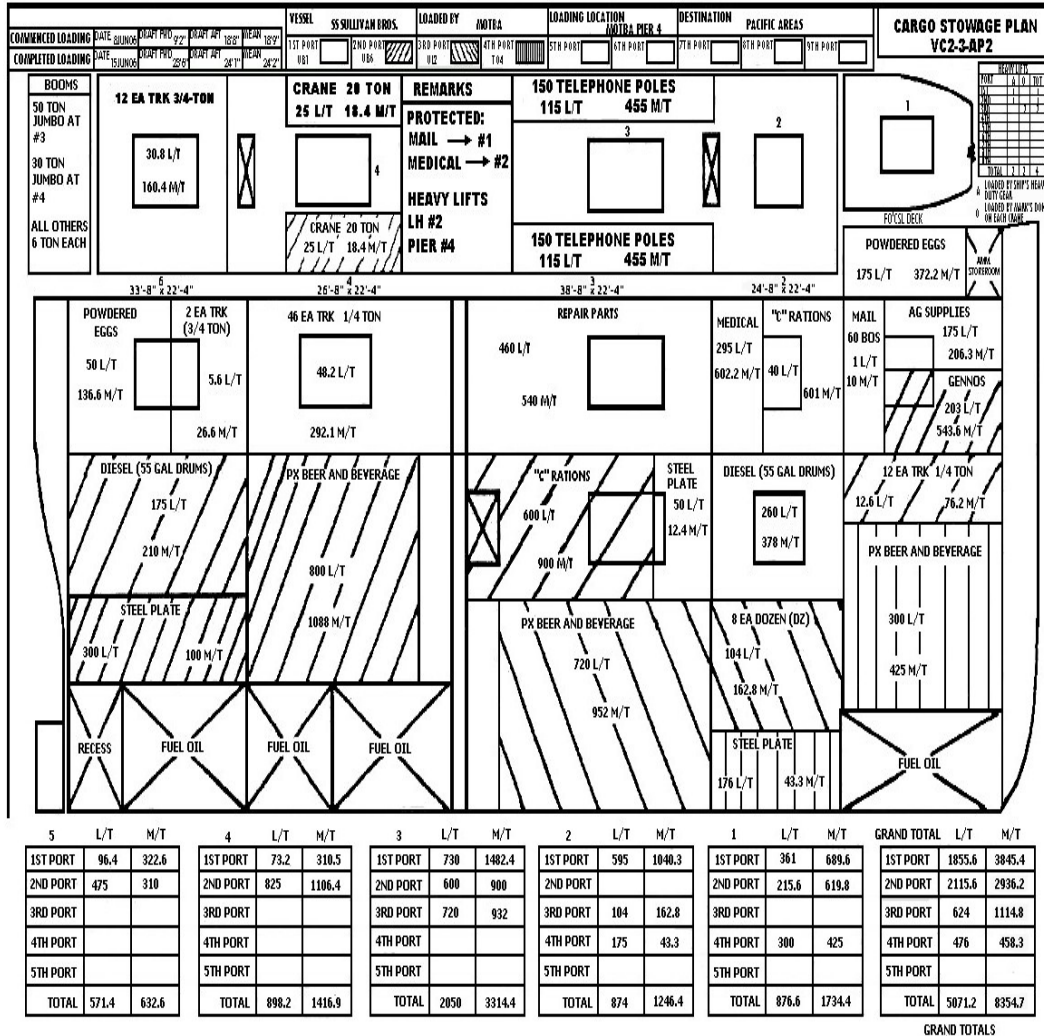

Figure 3-175
- b. Find the diagram on the stowage plan (see Figure 3-175) for the hatch to which assigned.